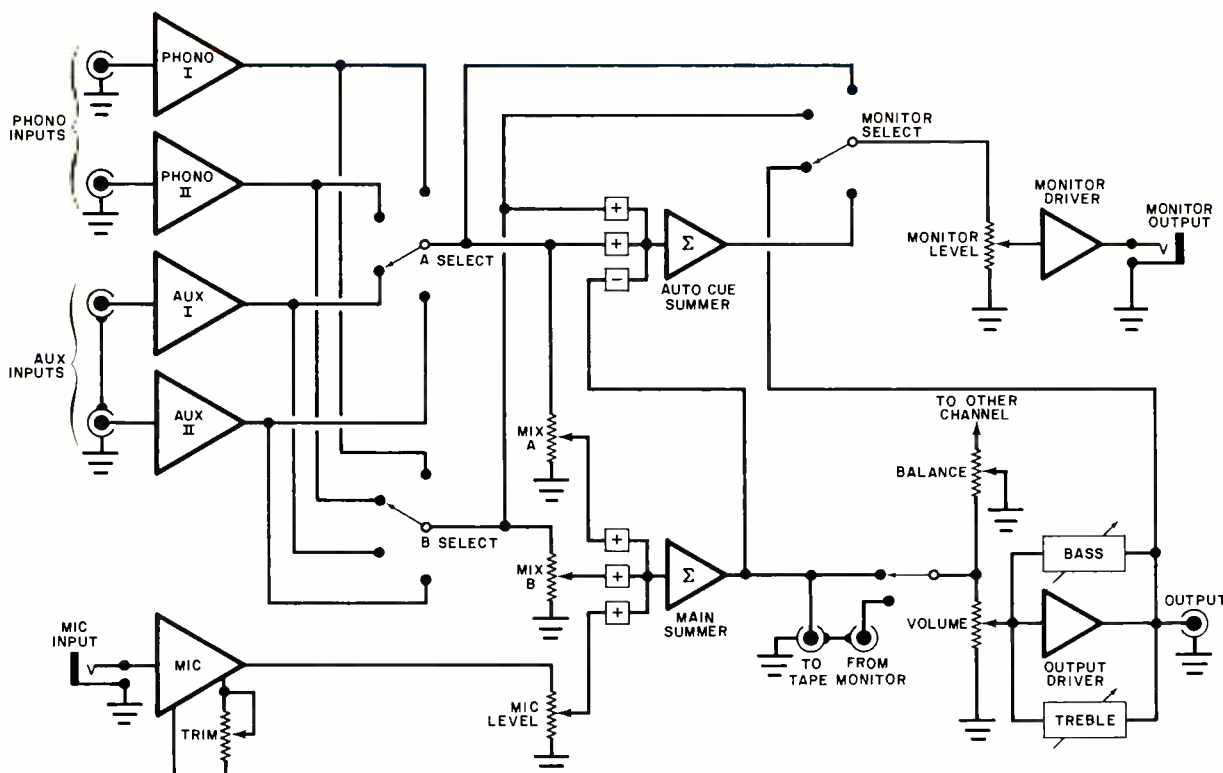

Fig. 2. Block diagram of combined preamplifier and mixer showing inputs, outputs, and controls.
**About the Circuit.** A block diagram of the complete mixer/preamplifier is shown in Fig. 2. Functionally, the Disco Mixer can be considered to be made up of three types of circuits: input conditioning, high-level processing, and output conditioning. Let's examine each.